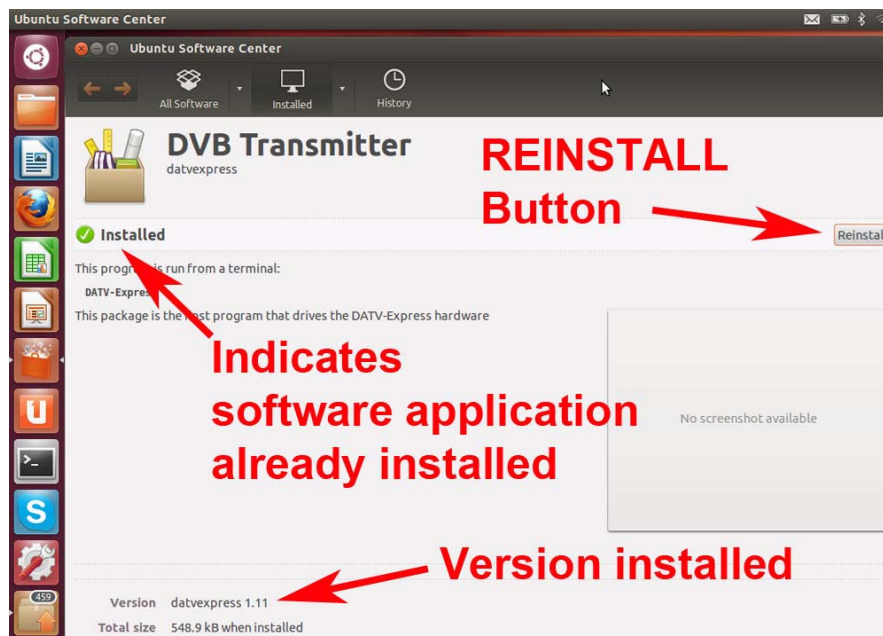

Figure 14 – Ubuntu Software Center screen for Upgrading Software
- The Ubuntu SOFTWARE CENTER will open and display that the DVB TRANSMITTER app is installed (a green check mark appears on left). See **Figure 14**.
- A green-checkmark should re-appear to announce “INSTALLED” and the far-right button will now offer REINSTALL as shown in **Figure 14**.